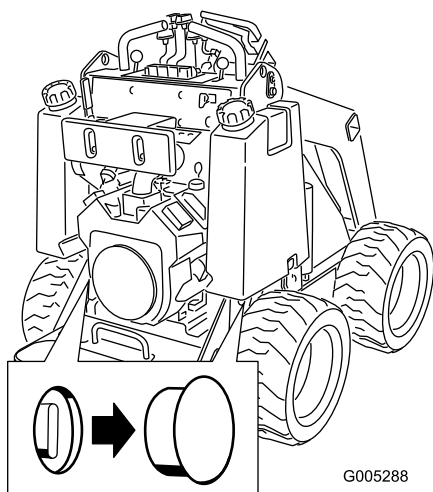

Figure 12
2. Remove the plug covering each tow valve (Figure 12).